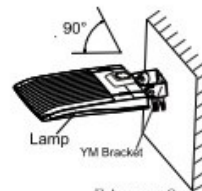

Figure 8
Step 3: Connect the fixture to the bracket and tighten the screws; connect the wires properly and put them into junction box. [Figure 8]
Notice: Adjustable angle is 0-90° [Figure 8]